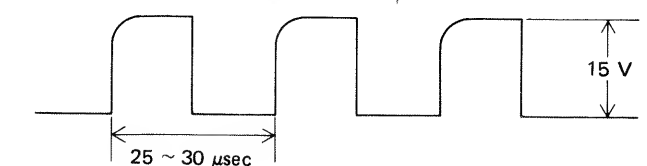

Fig. 7
2) Adjust VR1 to obtain maximum clock cycle of 30μsec. See fig. 7.